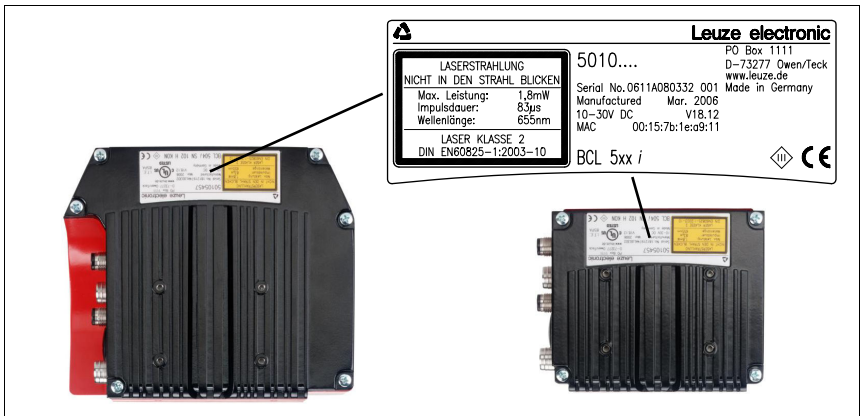

Figure 6.1: Device name plate BCL 500*i* \ BCL 501*i*
- The black areas in figure 6.1 are the housing base. The best read results are obtained when: